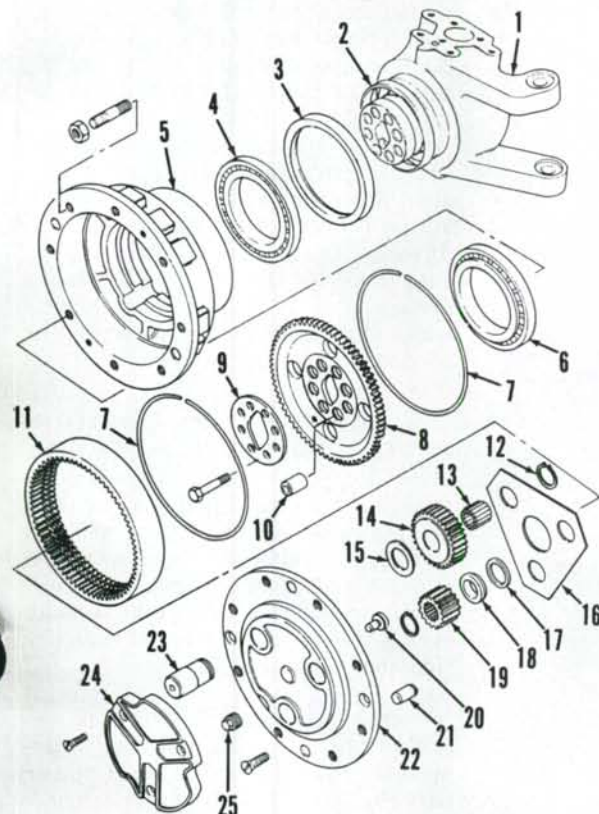

Fig. 31—Exploded view of final drive assembly used on Type 709/19 Carraro front drive axle.
drain plug from end plate and drain oil. Remove the two screws securing hub cover (22—Fig. 31) to hub housing (5). Pry cover loose and remove cover and planetary gears. Remove snap ring, sun gear (19), spacer (18) and washer (17). Remove bolts retaining planetary ring gear hub (8), then install four of the bolts into threaded holes in ring gear hub to remove ring gear. Remove outer bearing (6), then tap hub assembly (5) off swivel housing.
39. PLANETARY GEARS. To remove, raise and support front axle, then remove tire and wheel. Drain oil from wheel hub. Remove two screws securing cover (22—Fig. 31) to hub, then pry cover loose and remove cover and planetary gears.